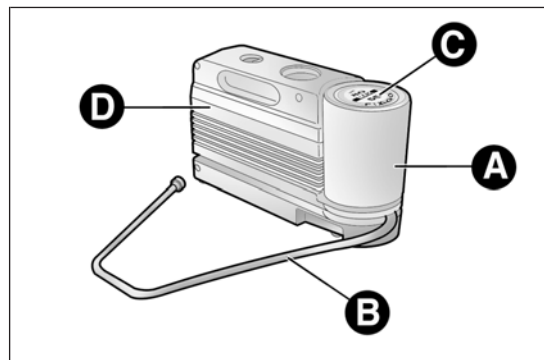

fig. 132
- a bottle fig. 132 containing sealer and fitted with: filling tube B and adhesive label C with the wording "max. 80 km/h" to be placed in a clearly visible position (e.g. on the dashboard) after repairing the tyre;